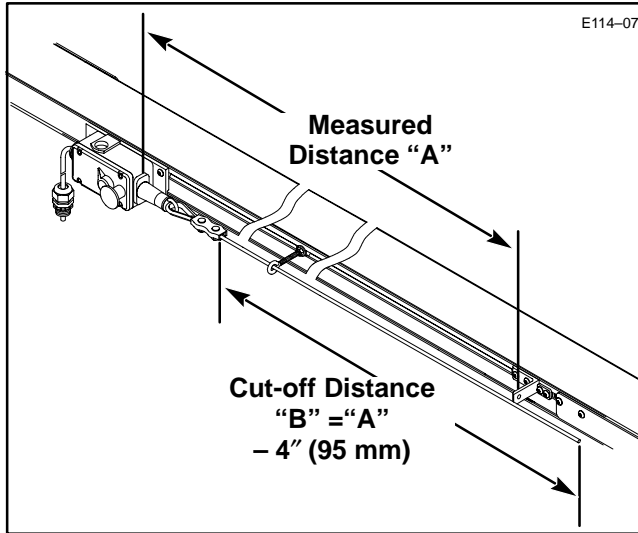

Figure 7: Pull Cord Shortening Detail
- g. Accurately measure distance from face of Switch Box to corresponding face of End Fitting Mounting Bracket, this is dimension "A". Calculate Pull Cord cut-off dimension "B" by subtracting 4" (95 mm) from dimension "A". Cut Pull Cord off at dimension "B" measured from end of Clamp assembly (on Switch Box end of Rope), as shown in Figure 7.